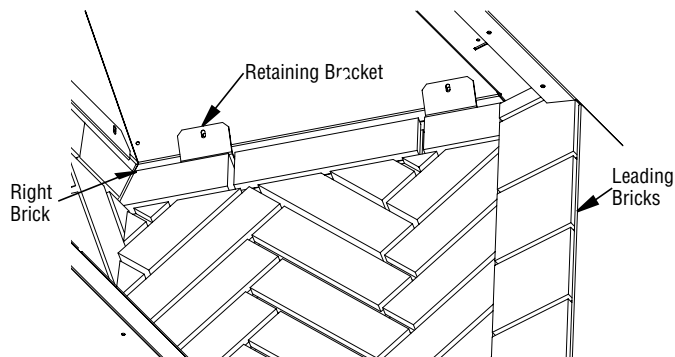

Figure 30 - Securing Left & Right Brick Panels
5. Secure both the left and right brick panels using two (per side) of the side retaining brackets provided. Align bracket with holes located on the inner dome of the fireplace. The bracket will slip underneath the metal lip on the top of the panel and screw into the inner dome of the fireplace (**Figure 30**).